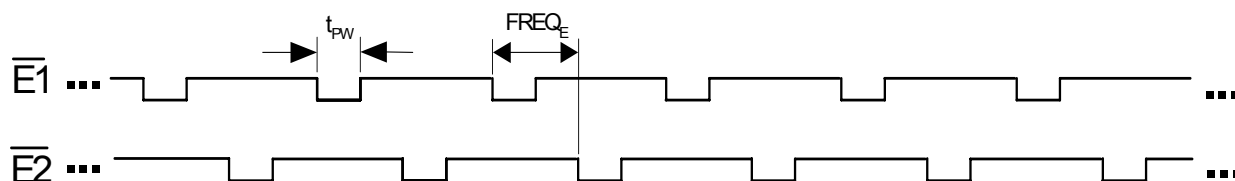

Figure 4. Alternate Pulse Format on $\overline{E1}$ and $\overline{E2}$
Setting bits MECH = 1 and STEP = 0 in the *Control Register* and ALT = 1 in the *Configuration Register* configures the $\overline{E1}$ and $\overline{E2}$ pins for alternating pulse output (see Figure 4). Each pin produces alternating active-low pulses with a pulse duration (t_{PW}) defined by the *Pulse Width Register* (PW):